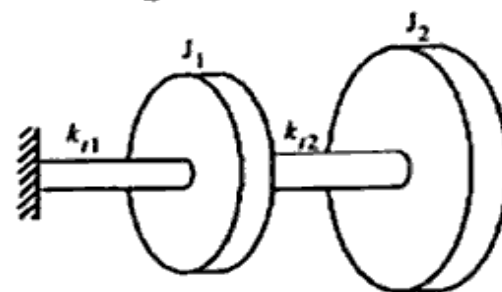

Figure 2
5. Determine the natural frequencies and normal modes of the torsional system shown in Fig. 2 for and $k_{t2} = 2k_{t1}$; $J_2 = 2J_1$.